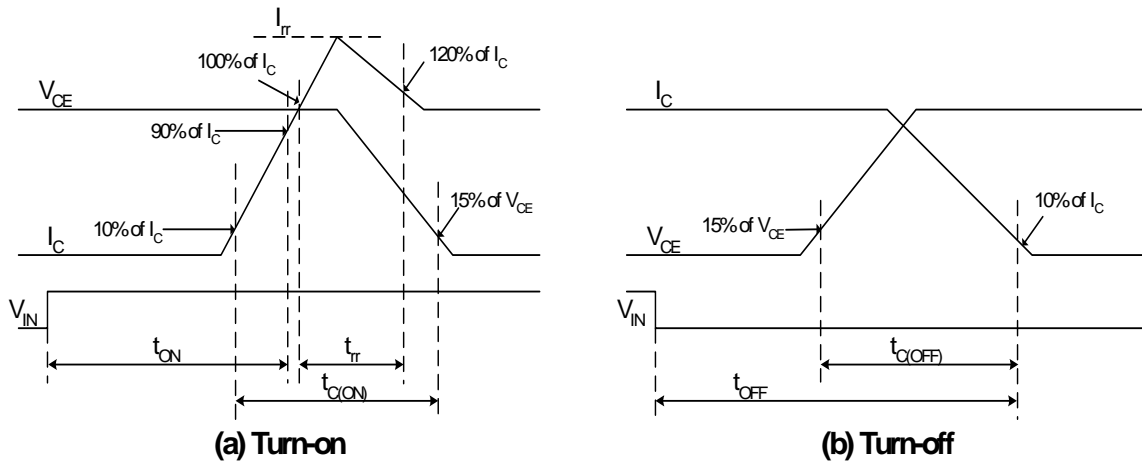

Figure 4. Switching Time Definition
2. tON and tOFF include the propagation delay of the internal drive IC. tC(ON) and tC(OFF) are the switching time of IGBT itself under the given gate driving condition internally. For the detailed information, please see Figure 4.